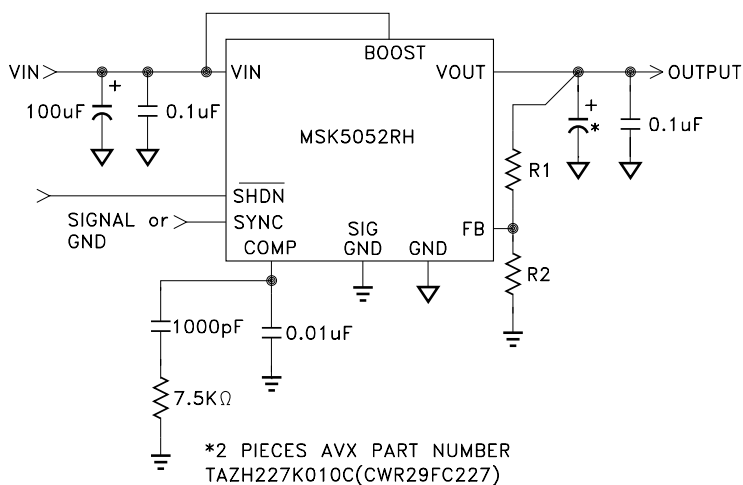

FIGURE 1
- ① Unless otherwise specified V_{IN}=5.0V, V_{OUT}=2.5V and I_{OUT}=1.0A. See Figure 1 for typical application circuit.
- ② Guaranteed by design but not tested. Typical parameters are representative of actual device performance but are for reference only.
- ③ Reference SYNC pin function in the Application Notes section herein.
- ④ Industrial grade devices shall be tested to subgroup 1 and 4 unless otherwise specified.
- ⑤ Military grade devices ("H" Suffix) shall be 100% tested to subgroups 1,2,3 and 4.
- ⑥ Subgroup 5 & 6 testing available on request.
- ⑦ Subgroup 1,4 TA=TC=+25°C
The output voltage of the MSK5052RH is set with a simple resistor divider network: see Figure 1 (Typical Application Circuit). Select the resistor values to divide the desired output down to equal VFB (1.21V nominal) at the FB pin. Use a 2.5K or lower value resistor for R2 to keep output error due to FB pin bias current less than 0.1%.